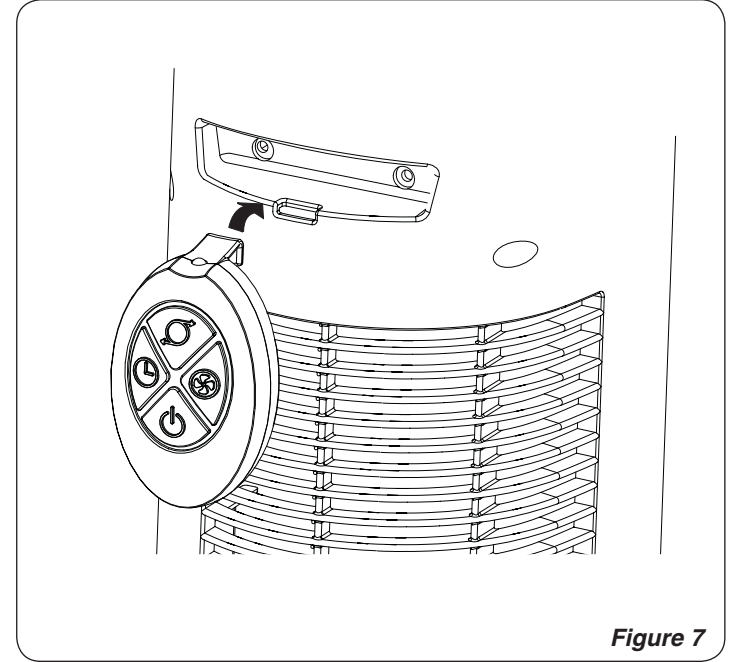

Figure 7
4. Remote control hook is located on back of Fan. (**Figure 7**)